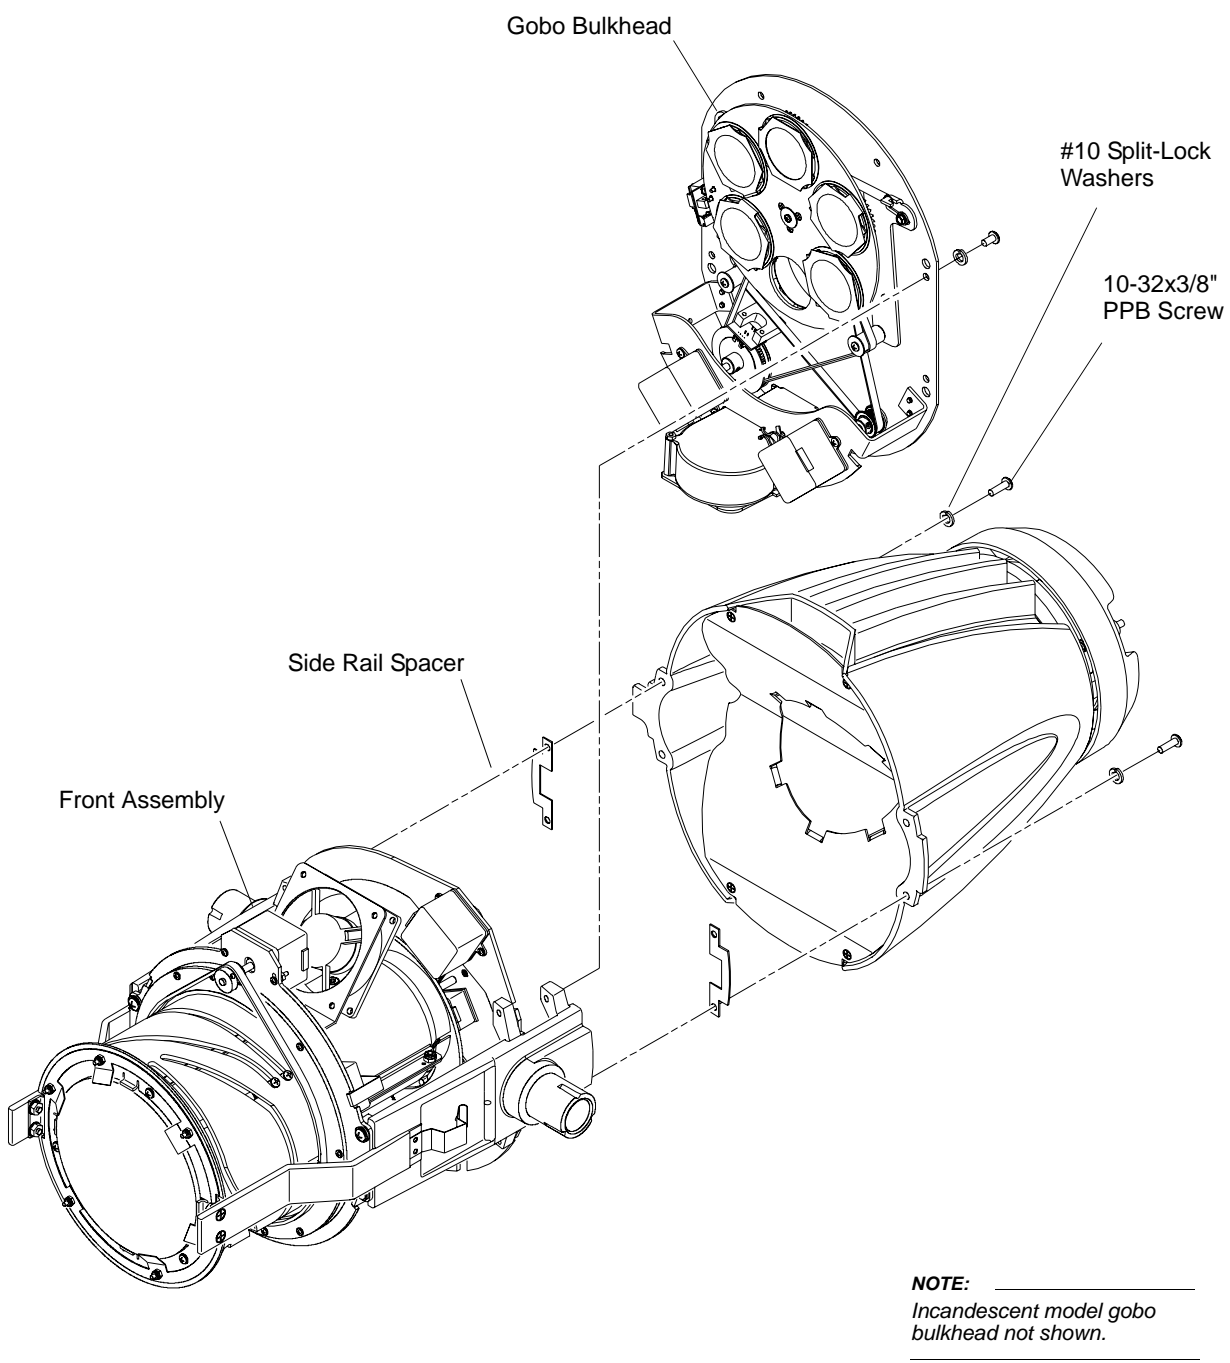

Figure 2-12: Gobo Bulkhead Assembly Replacement
- Step 3. At side rails, remove four 10-32x5/8" PPB screws and #10 split lock washers (Figure 2-12). (Side rail spacers will come loose also.) Pull rear head assembly away from front head assembly.